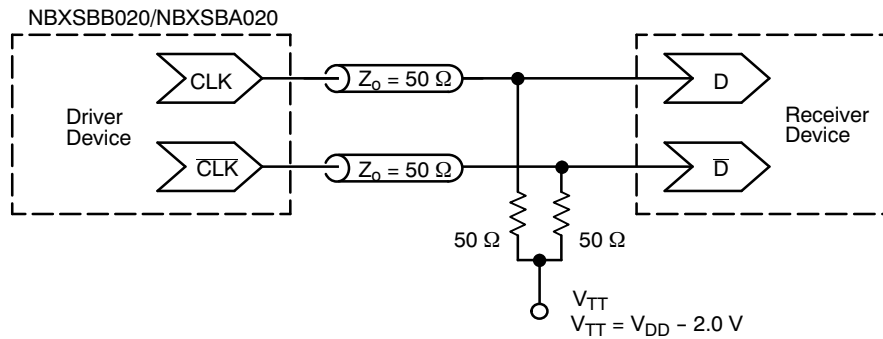

Figure 4. Typical Termination for Output Driver and Device Evaluation
2. Measurement taken with outputs terminated with 50 ohm to $V_{DD}-2 \text{ V}$. See Figure 4.
- Measurement taken with outputs terminated with 50 ohm to $V_{DD}-2 \text{ V}$. See Figure 4.